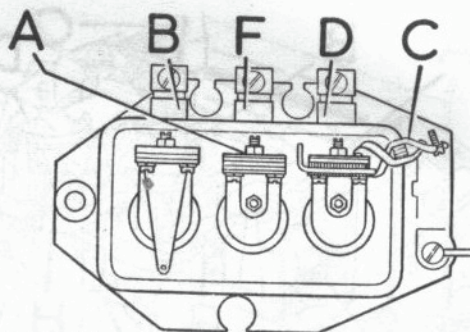

FIG 12:27 Shortcircuiting the voltage regulator
Checking the voltage regulator, type RB106 (see FIG 12:26):
- 1 Refer to FIG 12:27 and shortcircuit the voltage regulator with a large crocodile clip as shown.
Key to Fig 12:27